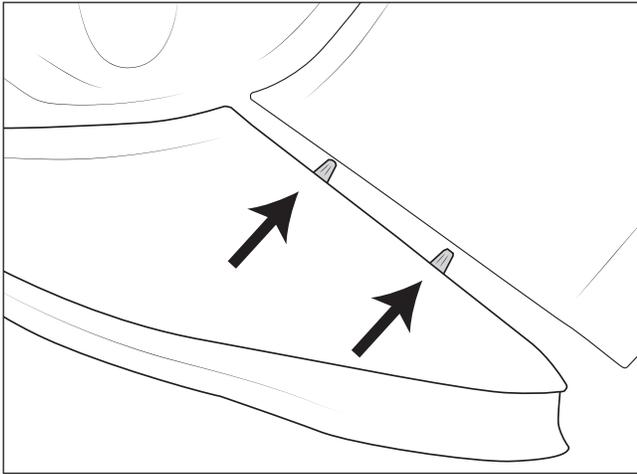

Figure 5
D. Engage the pins on the Headlamp Filler Panel into the fender (fig. 5).